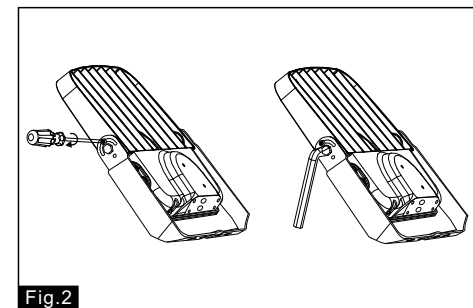

Fig. 2
2. Loosen screw and adjust the fixture to a desired illumination angle, then tighten screw (Fig.2).